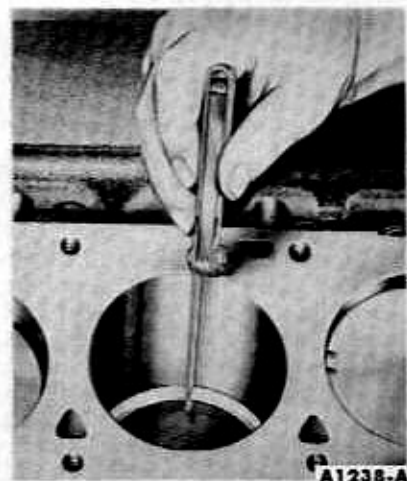

FIG. 19—Piston Ring Gap
5. Measure the gap between the ends of the ring with a feeler gauge (Fig. 19). If the gap is less than the recommended lower limit, try another ring set.